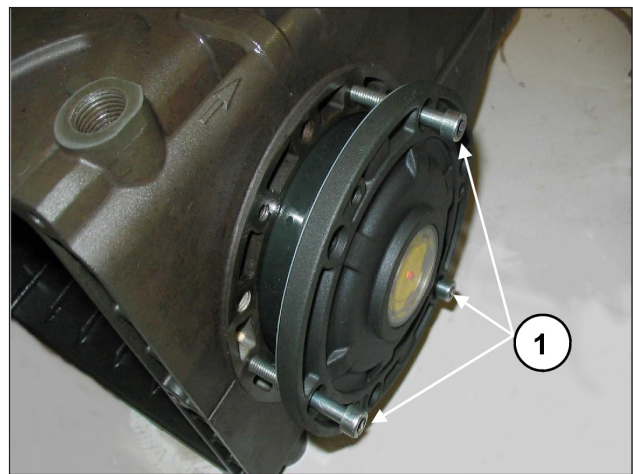
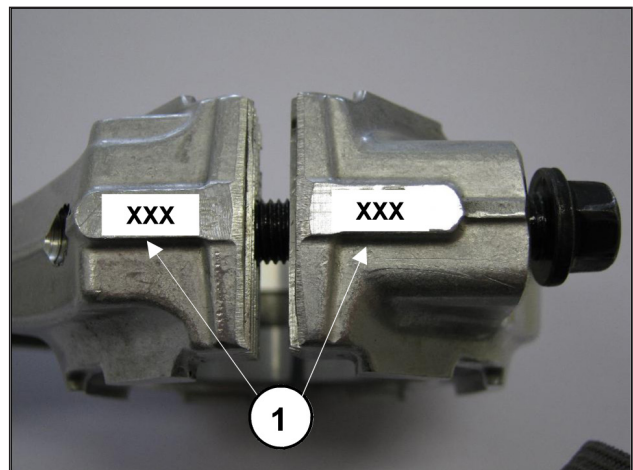

Fig. 8
Fig. 9
To facilitate filling of the first section and relative press fitting of the covers on the casing, we recommend using 3 partially-threaded M6 x 40 screws (Fig. 8, pos. ①), then completing the operation with the screws supplied (M6x18).
- Couple the con-rod caps to their shanks, referring to the numbering (Fig. 9, pos. ①). **Note the correct assembly direction of the caps.**
After having removed the side covers as indicated in par. 2.1.1, remove the outer ring nut of the bearings from the relative covers and the inner ring nut with the remaining part of the bearing from the two ends of the shaft by means of a normal "pin punch" or a similar tool as indicated in Fig. 8 and Fig. 9.